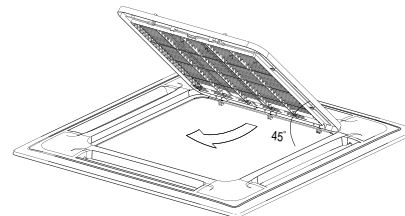

Fig. 5-10
- Draw the grill up to an angle of about 45°, and remove it. (Refer to Fig. 5-10)